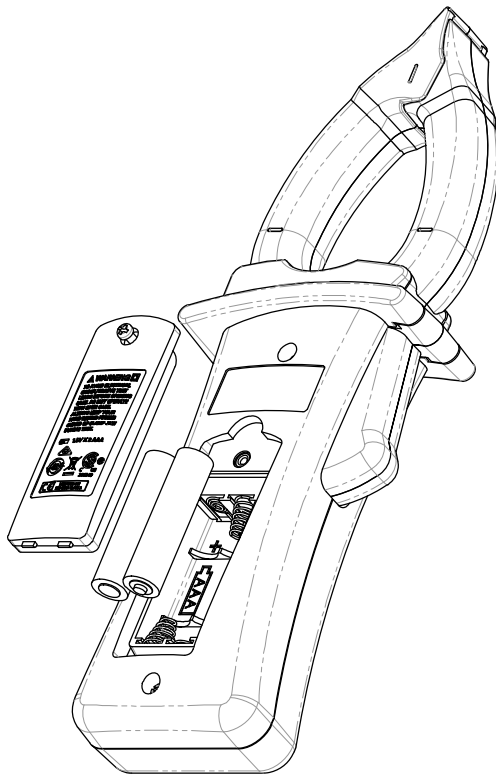

Figure 1-1 Installing the batteries
- 1 Open the battery cover.** Loosen the screw with a suitable Phillips screwdriver and remove the battery cover as shown in Figure 1-1.